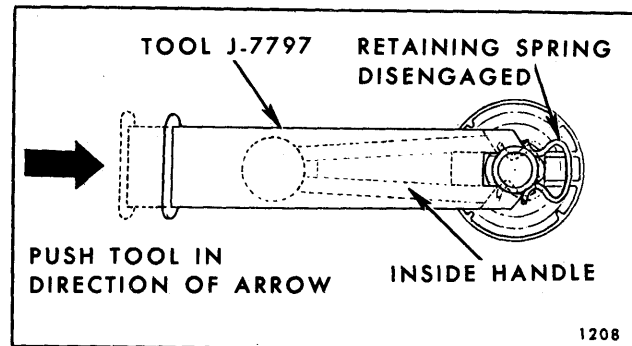

Fig. 14-7—Door Inside Handle Removal - Spring Clip Retained
2. With tool in same plane as handle as shown in Figure 14-7, push tool as indicated to disengage clip. Pull handle inboard to remove from spindle.